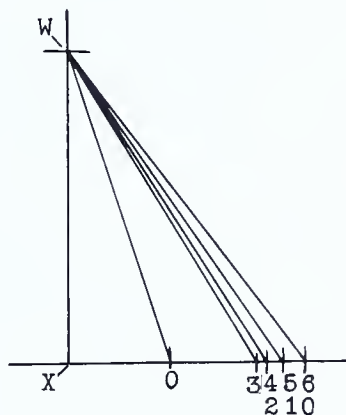
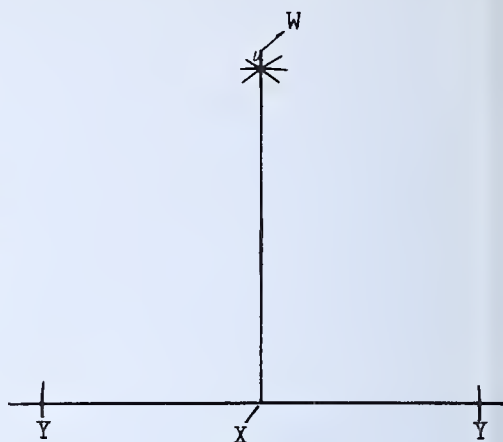

FIG. 298 — Step 19
FIG. 299 — *Perpendicular Erected on Template as in Step 22*
18. Scribe lines from  $w$  to points  $O', 3, 4, 5$ , and  $6$  as shown in Fig. 298.
22. Erect a perpendicular  $x-w$  (use the steel square or the trammels) at the middle point of the straight line ( $y-y$ ) as shown in Fig. 299.
24. Transfer this distance to the layout as shown in Fig. 299 at  $y$  and  $y$ .
25. Set the trammels to distance  $w-6$  in Fig. 298.
26. Transfer this distance to the layout  $y-w$  as shown in Fig. 299.
Distances  $w-y$  in Fig. 299 measure the same. The distance  $w-y$  in Fig. 299 is equal to the distance  $w-6$  in Fig. 298.
27. Set the trammels to distance  $w-o'$  in Fig. 298.
31. Set the trammels to distance  $w-1$  in Fig. 298.
33. Set the trammels to distance  $w-2$  in Fig. 298.
40. Set the trammels to distance  $o-w$  in Fig. 298.